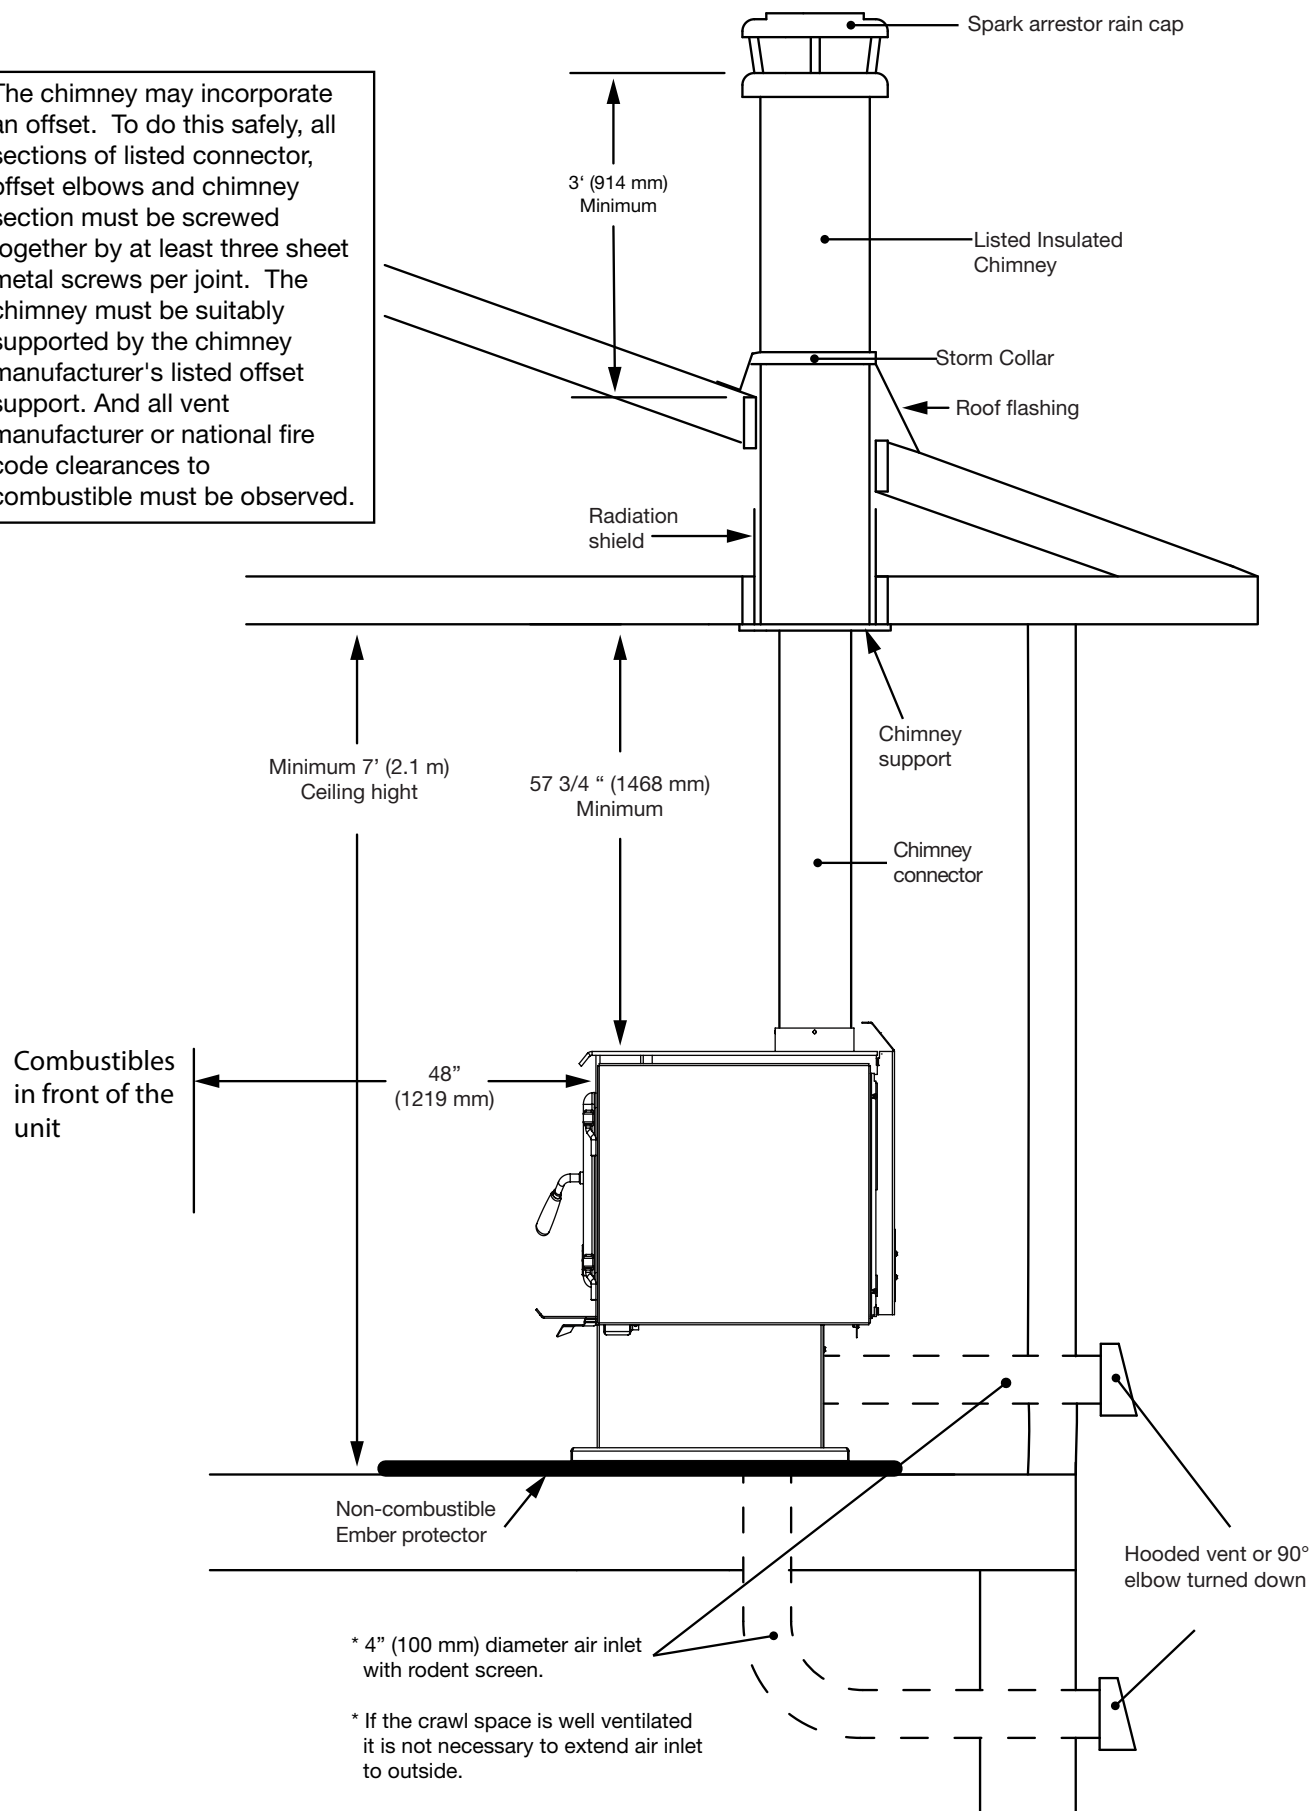

Figure 6: Mobile home or typical home installation.
- To draw outside air through the floor; leave the knockout or square cover plate in the rear of the pedestal in place. Use an approved 4"(102mm) inlet vent cap. Cut or drill a 4"(100mm) diameter or larger hole in the floor anywhere inside the perimeter of the pedestal base. Cover the hole with a 20GA wire mesh minimum, rodent screen and staple/nail in place. This hole must get its air from a ventilated crawl space or be extended with duct to the outdoors (see Figure 6 on page 15 or Figure 7 on page 16)
- To draw outside air through the floor; Cut or drill a 4"(100mm) diameter or larger hole in the floor under the stove. Attach the outside air adapter (OAIR.1B) to the underside of the stove. Connect the adapter to the hole using 4"(100mm) flexible or rigid metal venting. Cover the hole with a 20GA wire mesh minimum, rodent screen and staple/nail in place. This hole must get its air from a ventilated crawl space or be extended with duct to the outdoors (see Figure 6 on page 15 or Figure 7 on page 16. if extended use an approved 4"(102mm) inlet vent cap